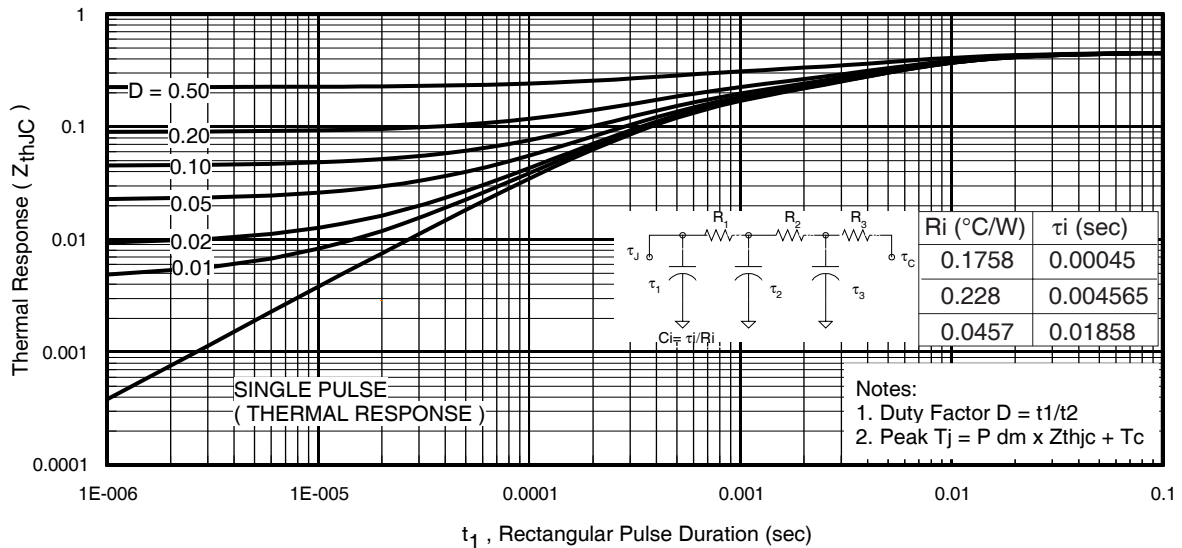

Fig 11. Maximum Effective Transient Thermal Impedance, Junction-to-Case
- ① Repetitive rating; pulse width limited by max. junction temperature. (See fig. 11).
- ② Limited by T_{Jmax} ; starting $T_J = 25^\circ\text{C}$, $L = 0.17mH$
$Z_{thJC}(D, t_{av})$ = Transient thermal resistance, see figure 11)